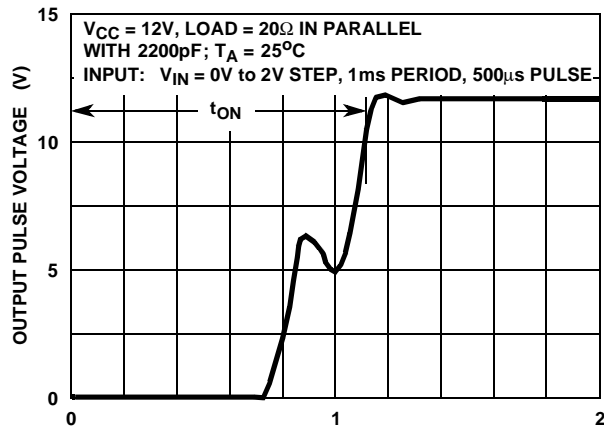

FIGURE 3A. OUTPUT TURN-ON TIME (μs)
5. Refer to Figures 3A and 3B for typical switching speeds with a 20Ω Load.